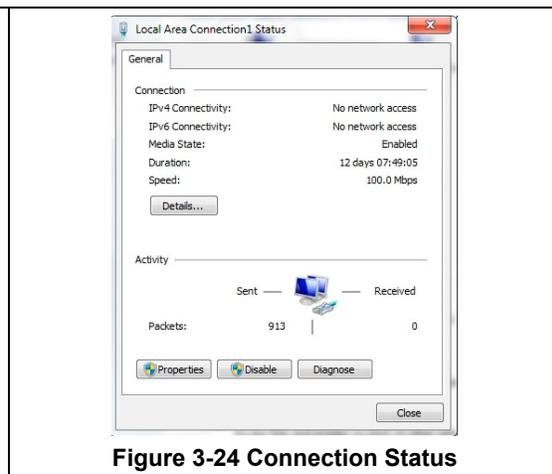

Figure 3-24 Connection Status
- c. Select **Properties** button from the Local Area Connection Status window, Figure 3-24